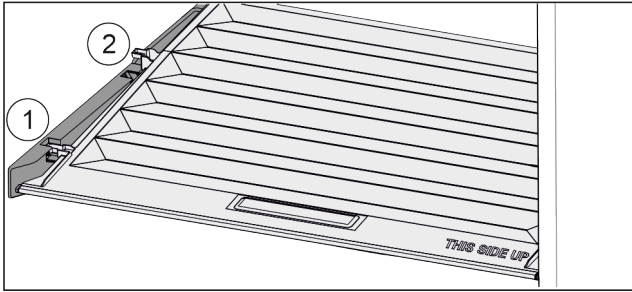

Fig. 145
- ▶ Pull the lid up at the front to the opening in the retaining parts Fig. 145 (1).
- ▶ Lift from the back and pull it up and out Fig. 145 (2).